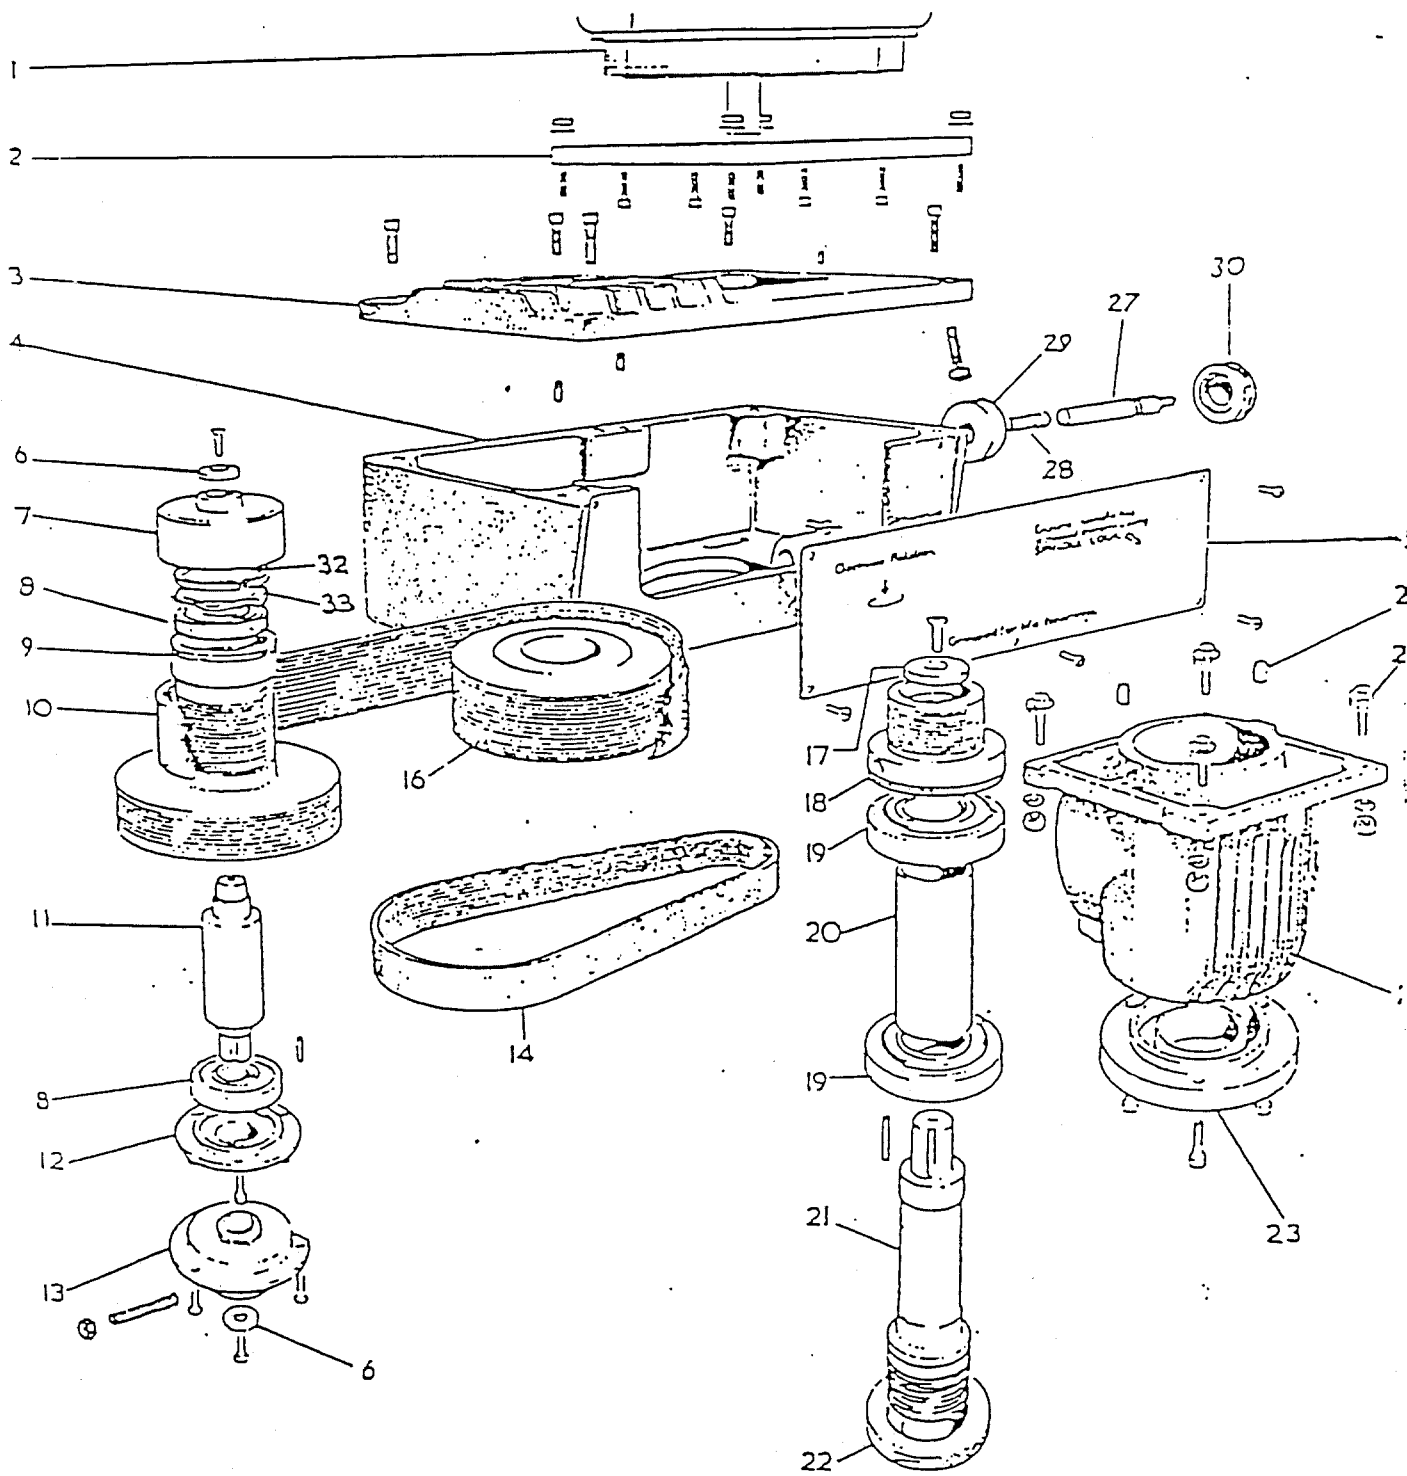

FIG. 21 BELT DRIVEN HEAD
8.3 BELT DRIVEN HEAD PARTS LIST (See Fig. 21)